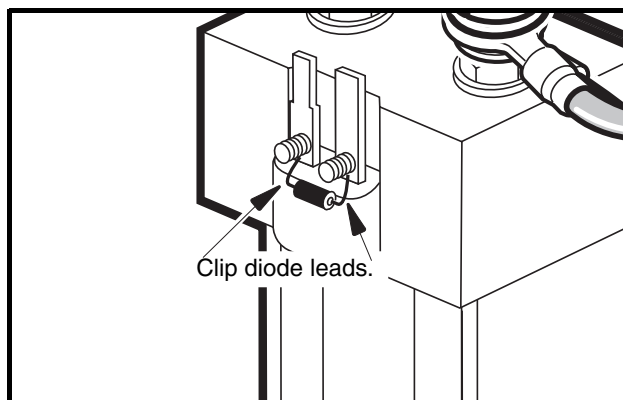
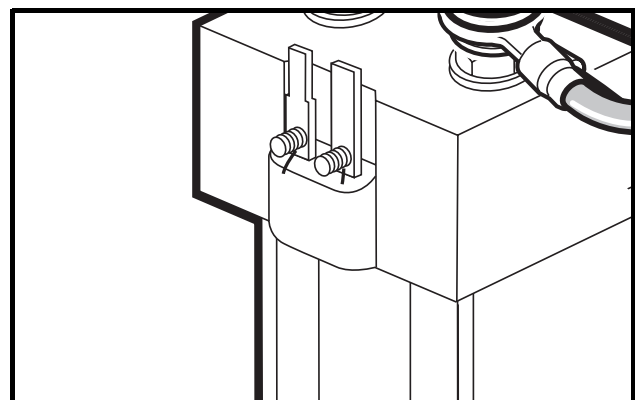

Figure 11-16 Diode Removal
Figure 11-17 Solenoid with Diode Removed
4. To remove the diode, carefully clip the two leads where they attach to the solenoid terminals (**Figure 11-16, Page 11-18 and Figure 11-17, Page 11-18**). See following NOTE.